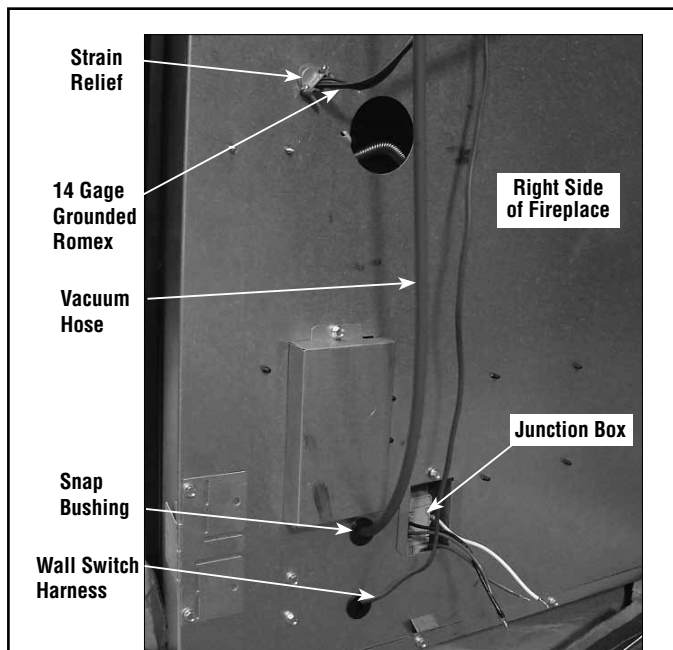

Figure 20
- Install the strain relief in the hole provided on the right side of fireplace for the electrical wiring (refer to Figure 20).